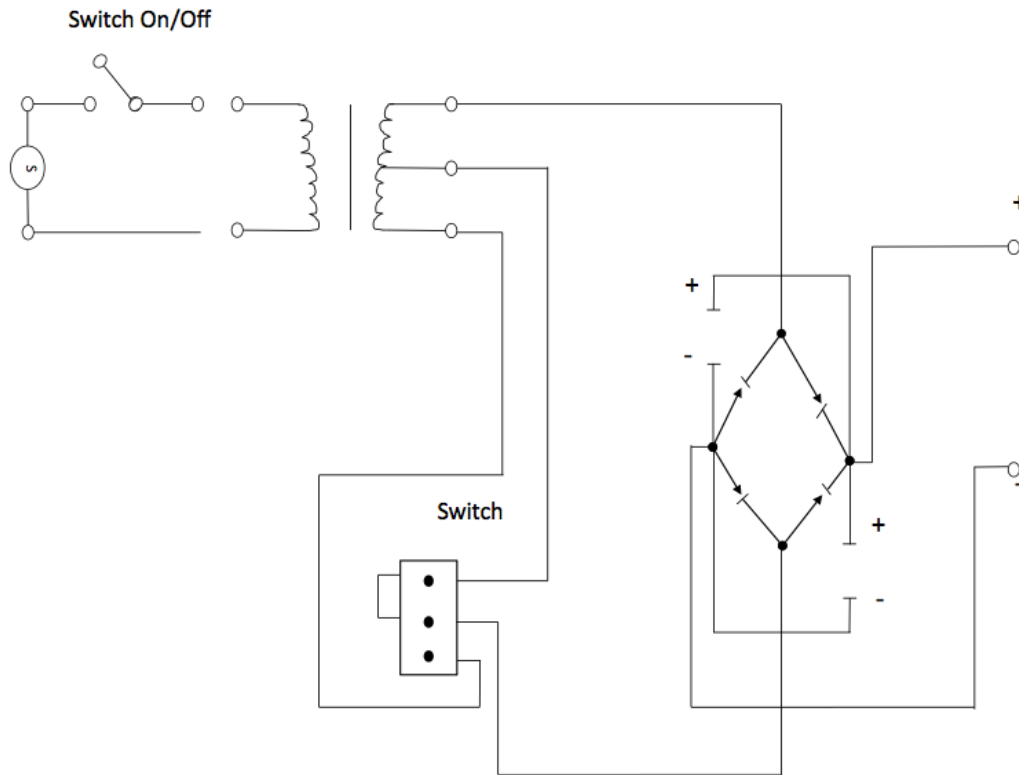

Figure 3: Circuit Diagram
3) The Hammond Manufacturing Transformer (115 VAC 100VCT 0.5A) and electronic components were configured to the Padboard according to the circuit diagram (Figure 3). All electronic components, wiring and circuit board connections were soldered using a standard soldering iron (Standard Soldering Iron 60W Pencil Tip) and solder. With this current configuration it was imperative that only 110V AC inlet power be supplied to the transformer. Any current above this threshold would damage the electrical components, the transformer, and become a potential fire hazard rendering the SBPSU inoperable.